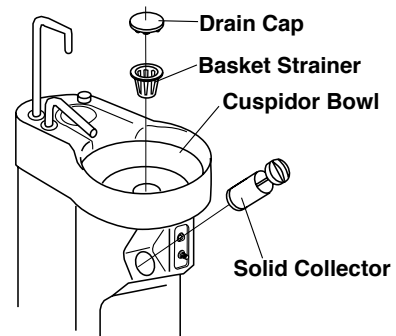

Fig.6-1 Basket Strainer and Solid Collector
(2) Basket Strainer (Fig.6-1)
(3) Solid Collector (Fig.6-1)